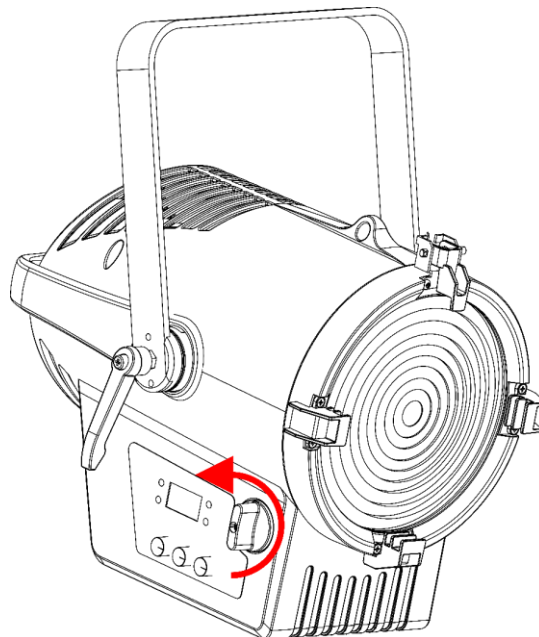

Fig. 09
- 01) Turn the **zoom control (01)** to set the desired zoom (see Fig. 09).